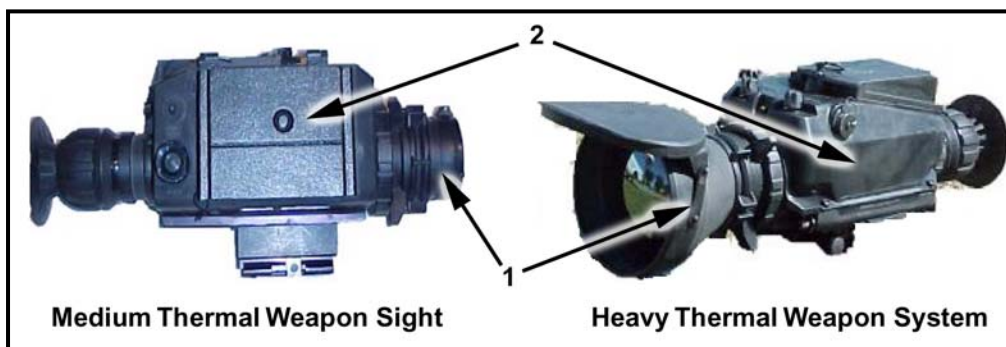

Figure 2-34. HTWS and MTWS models of the thermal weapon sight.
The AN/PAS-13 (V2) medium thermal weapon sight (MTWS) and the AN/PAS-13 (V3) heavy thermal weapon sight (HTWS) (Figure 2-34) are silent, lightweight, compact, and durable battery-powered infrared imaging sensors that operate with low battery consumption. (Both the MTWS and the HTWS are referred to henceforth as a singular thermal weapon sight [TWS]). The TWS is capable of target acquisition under conditions of limited visibility such as darkness, smoke, fog, dust, and haze. The TWS operates effectively at night and can also be used during the daytime. The TWS is composed of two functional groups: the telescope (1) and the basic sensor (2).